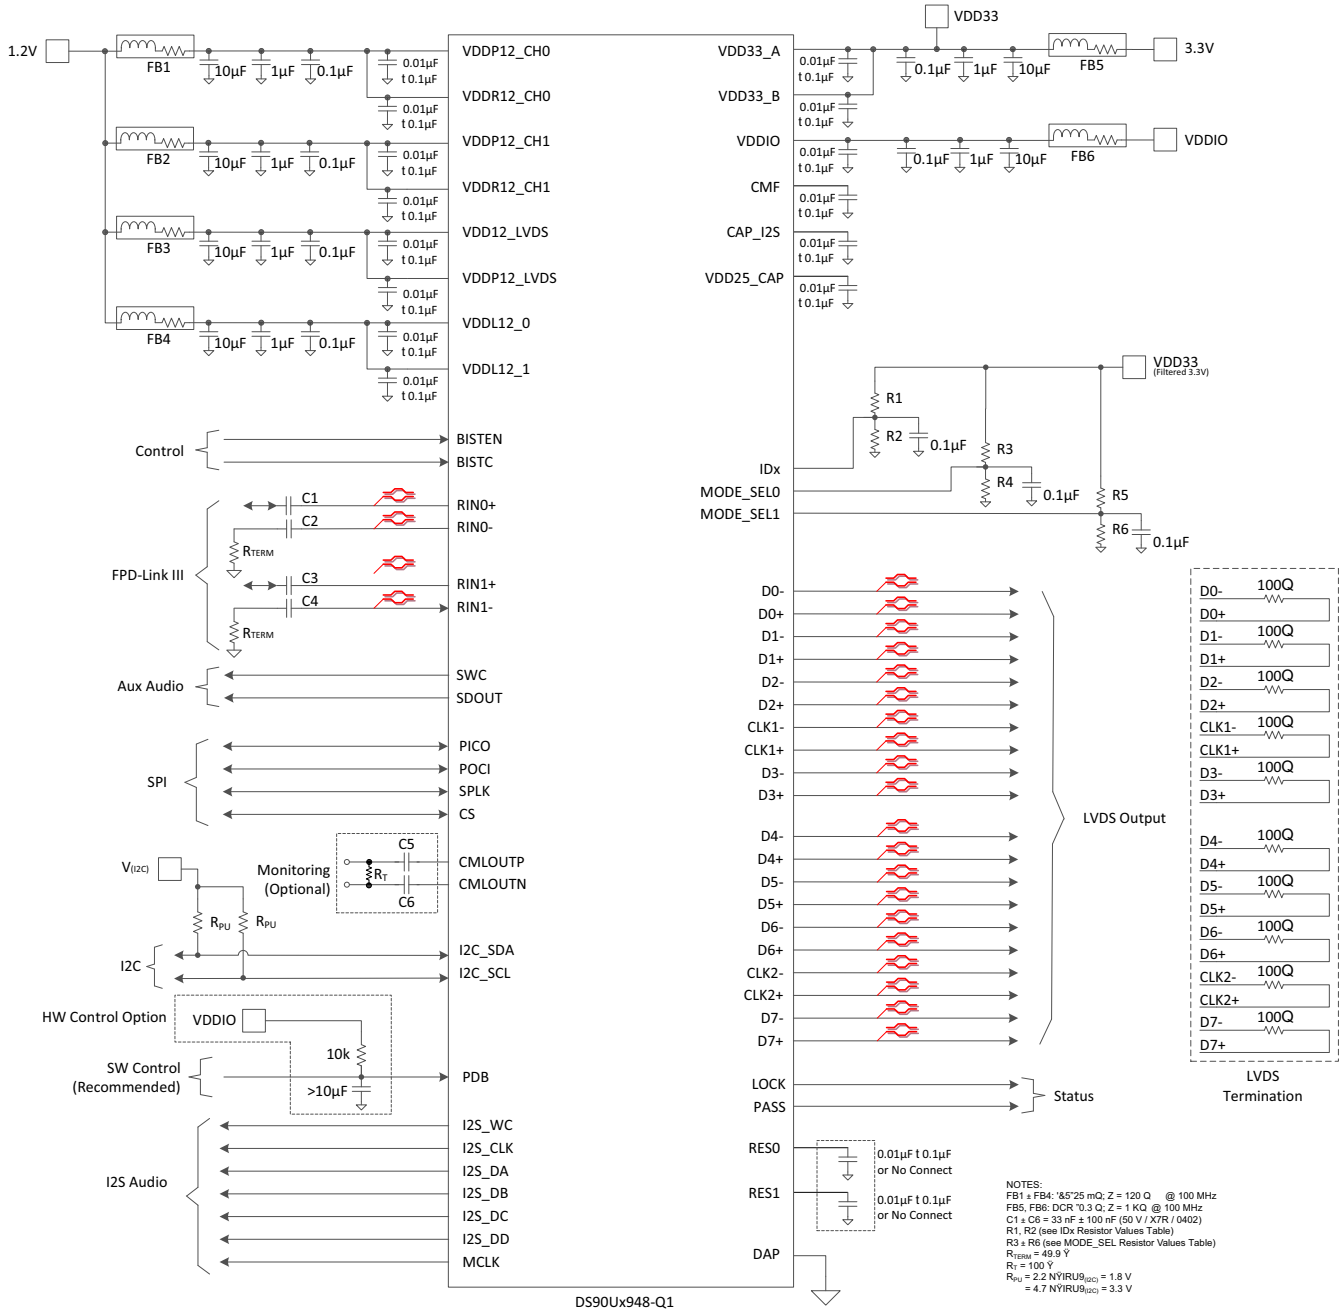

Figure 8-1. Typical Connection Diagram (Coax)
Bypass capacitors must be placed near the power supply pins. At a minimum, use four (4) 10- μ F capacitors for local device bypassing. Ferrite beads are placed on the two sets of supply pins (VDD33 and VDDIO) for effective noise suppression. The interface to the graphics source is LVDS. The VDDIO pins may be connected to 3.3 V or 1.8 V. A capacitor and resistor are placed on the PDB pin to delay the enabling of the device until power is stable. See Figure 8-1 for a typical STP connection diagram and Figure 8-2 for a typical coax connection diagram.